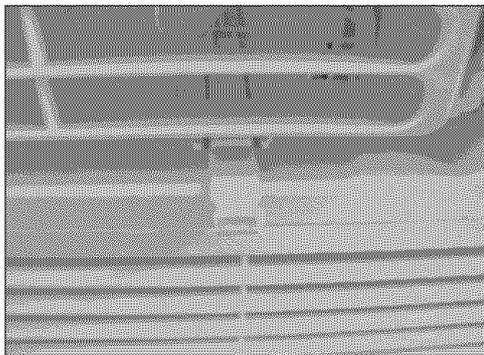

Figure 2 (VENT OPEN)
2. Draw fresh air into the room — Vent Open (see Fig. 2)